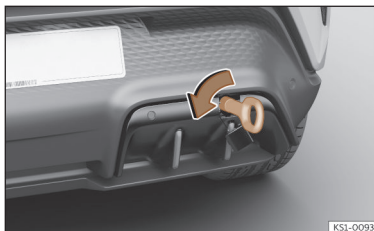

Fig. 188 Right side of the rear bumper: towing eye screwed in.
- Screw the towing eye into the housing by turning it **anticlockwise** >>> Fig. 188 , >>> ① as far as it will go. Use a suitable object that can completely and securely tighten the towing eye in its housing.